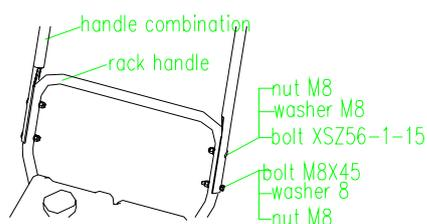

FIG 2
**2.2.1** Assemble the handle combination to the handle bracket with bolt M8×45, bolt XSZ56-1-15, washer 8, and nut M8. (FIG 2)